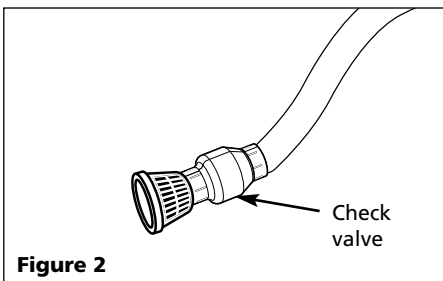

Figure 2
3. A check valve must be used in the suction line to maintain the self-priming capability. If no check valve is used the pump will need to be primed at the start of each operation. For best operation, the check valve should be installed at the intake of the suction line.(Figure 2).